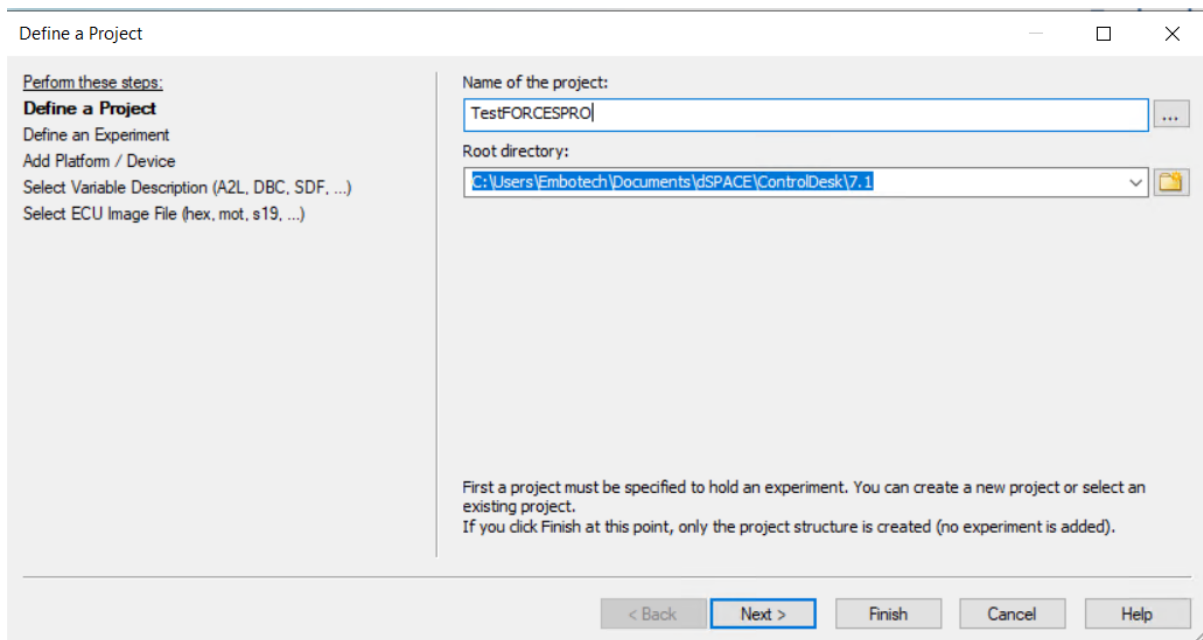

Figure 13.49: Start a new project and name it.
- 2) Open dSpace Control Desk and select create new project and name it (see Figure 13.49).